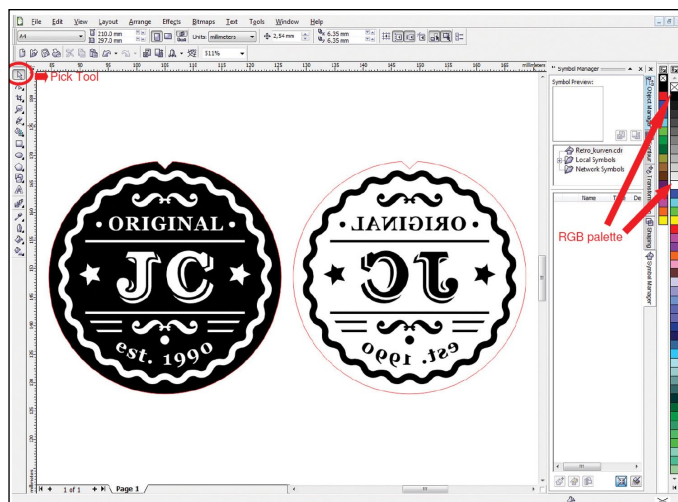

Figure 6: Color the original
- Select all your items in the original graphic (text, graphics, logo) and recolor them white. Now select the circle and color just the circle black (see Figure 6).